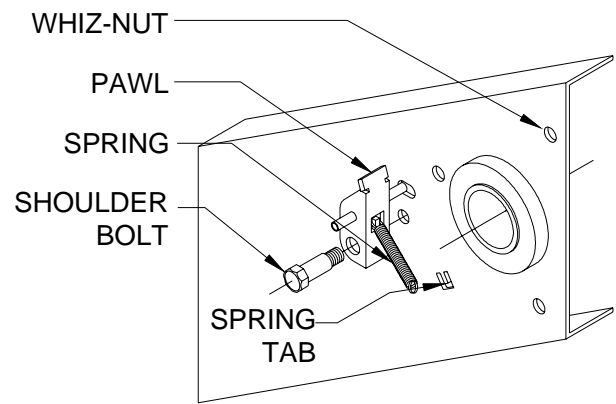

Figure 3.
4.1T Attach the small spring to tabs on the tension release pawl and the inside of door bracket. Then stretch the spring until the holes are lined up and secure with 3/8" shoulder bolt and 5/16" whiz nut. See Figure 3. Repeat on other bracket.